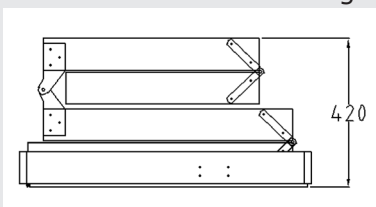

fig 2
5. The area for the opening must be clear of wiring, plumbing and structural members such as beams and trusses with a minimum clear height above the ceiling of 420mm (figure 2).